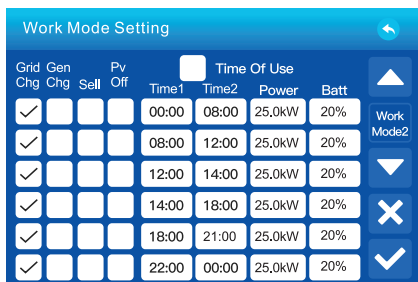

Figure 5.7-4 TOU mode
**For example: (as shown on Figure 5.7-4 TOU mode)**